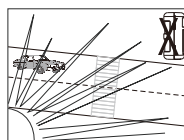

Fig. 2
1.3 The detector should be avoided being directly facing the sun, roads with heavy vehicle traffic, or other similar places. (Fig. 2)